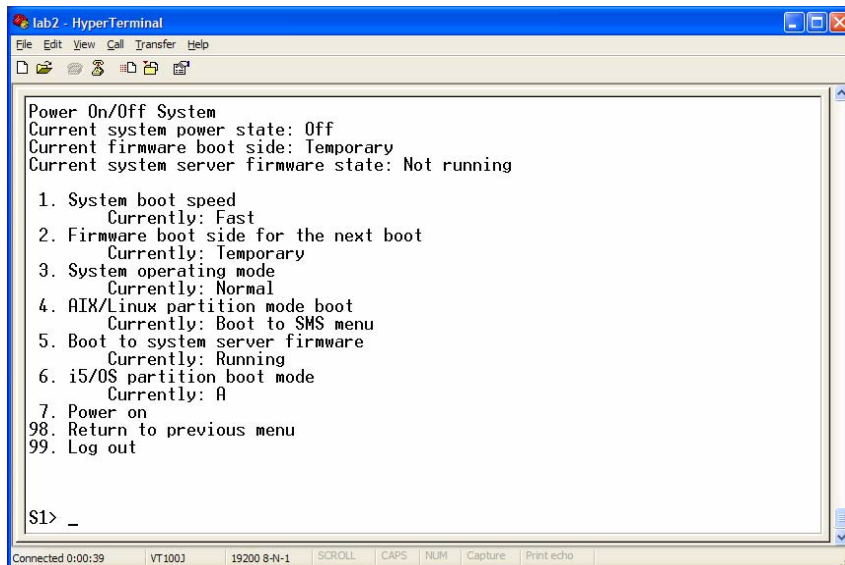

Figure 66. Verifying correct system Power-on settings
8. Log in from the tty device (or the PC-based HyperTerminal service) and verify the correct Power-on settings for the newly created partition on the System p model (see Figure 66):